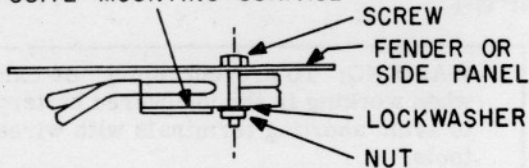

Figure 3. Receptacle Mounting
9. Attach the receptacle to the left fender as shown in Fig. 3.
5. Attach the receptacle to the inside of the right side panel as shown in Fig. 3.